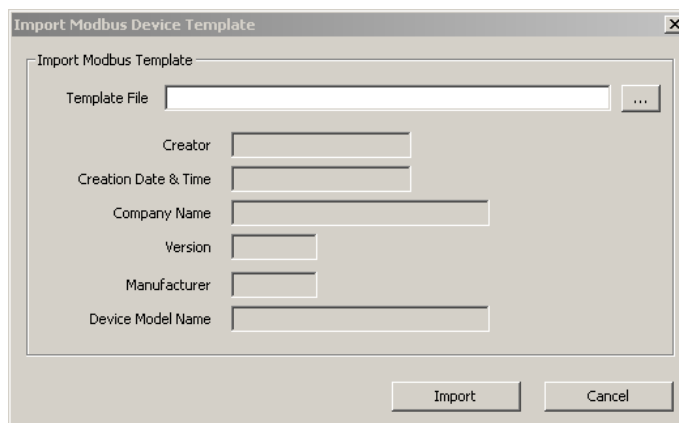

Figure 214 Import Device Template dialog.
2. This opens the **Import Modbus Device Template** dialog shown in Figure 214.